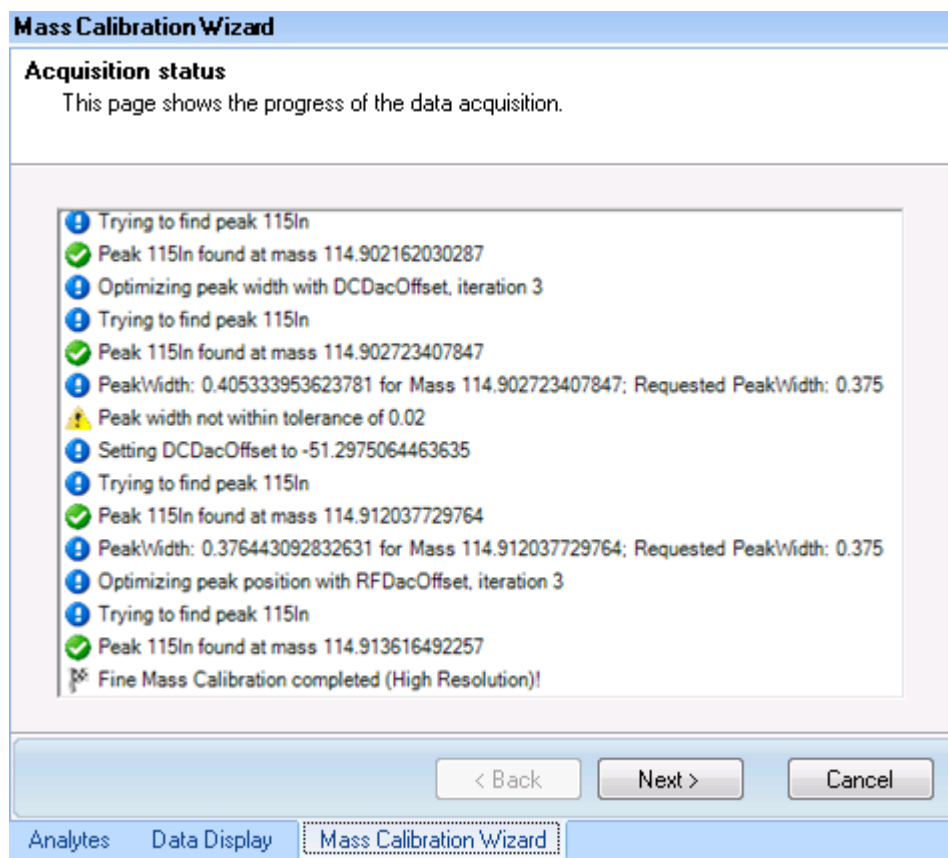

Figure 4-98. Results of Mass Calibration wizard
14. The **Result** window opens automatically when the calibration is finished, see Figure 4-98.